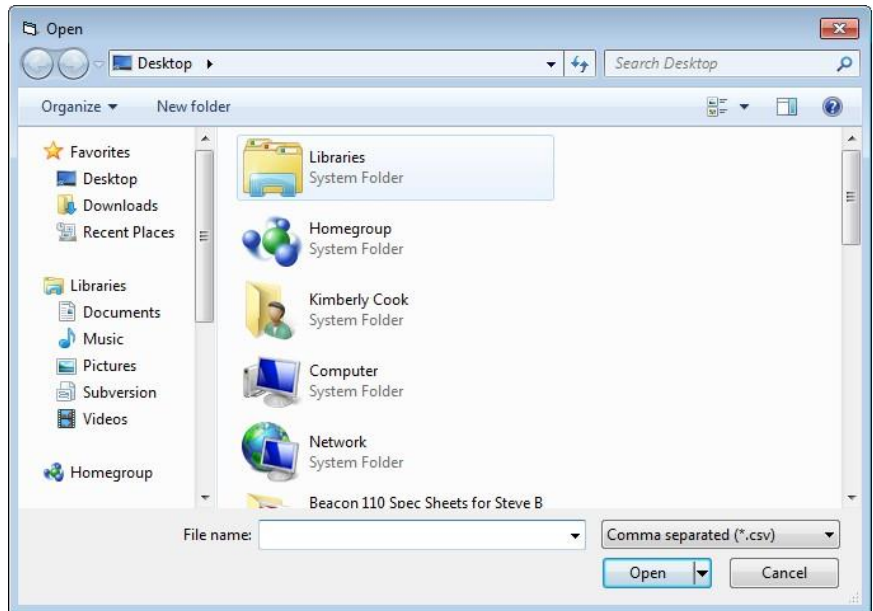

Figure 78: Import csv File
3. Select the file you want to import and click **Open** (see Figure 78).